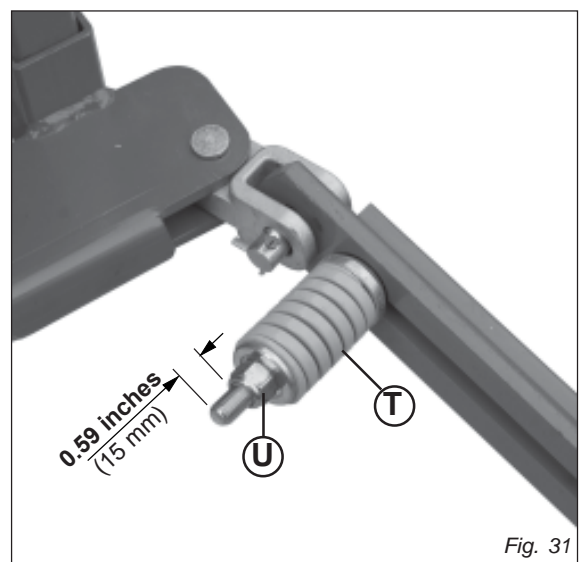

Fig. 31
- The sickle bar is fitted with a safety device for protection against obstacles. If this device is tripped by impact with an obstacle, stop the tractor without raising the cutting arm. Check that the cardan shaft has not become separated, if so, reassemble it. **Position the safety tie rod parallel to the ground, and reverse the tractor until the safety tie rod hooks up again.** If the tie rod releases easily, adjust spring (T, Fig. 31) using nut (U, Fig. 31) which should be tightened half turn at a time.
A spring compression other than that indicated in Figure 31 (0.59 inches) can make the safety device ineffective.